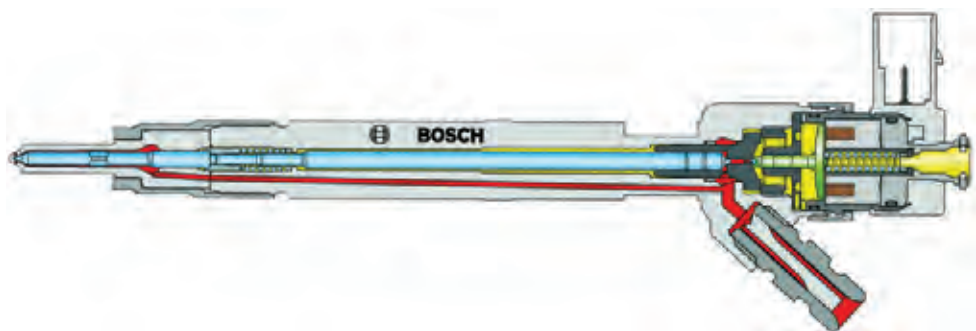

Figure 6.51 Electrically operated diesel fuel injector
- electronically controlled injectors (Figure 6.51);